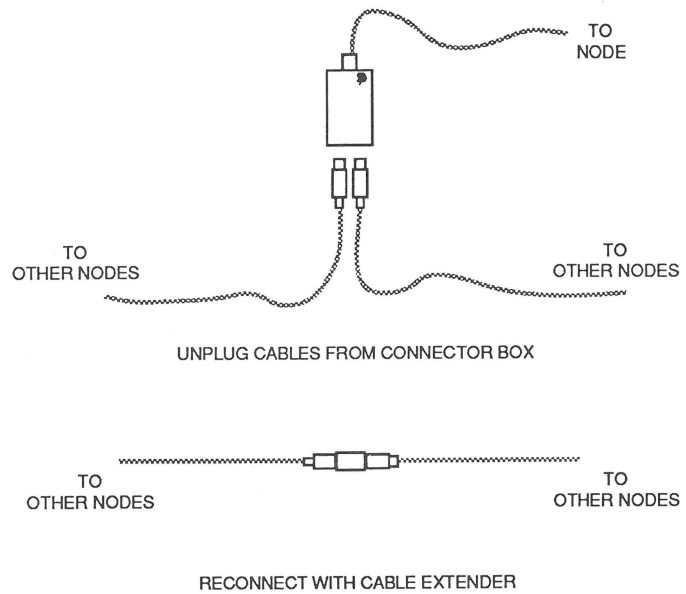

FIGURE 7
- Replace the connector with a cable extender so that there are no dangling cables (Figure 7).